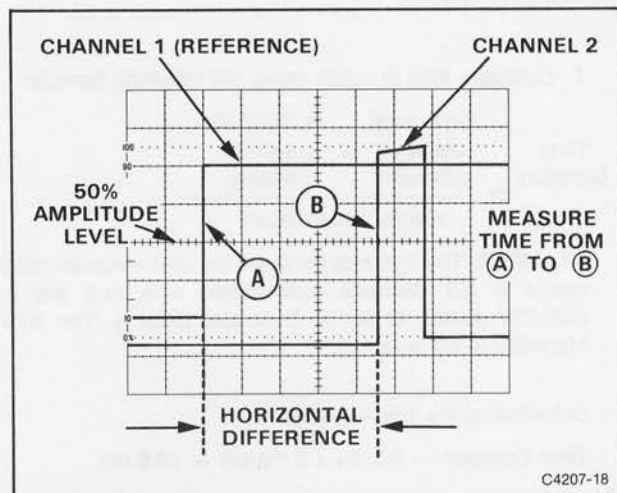

Figure 4-7. Time difference between pulses on time-related signals.
8. Set the A SEC/DIV switch to a sweep speed which provides three or more divisions of horizontal separation between the reference points on the two displays. Center each of the displays vertically (see Figure 4-7).